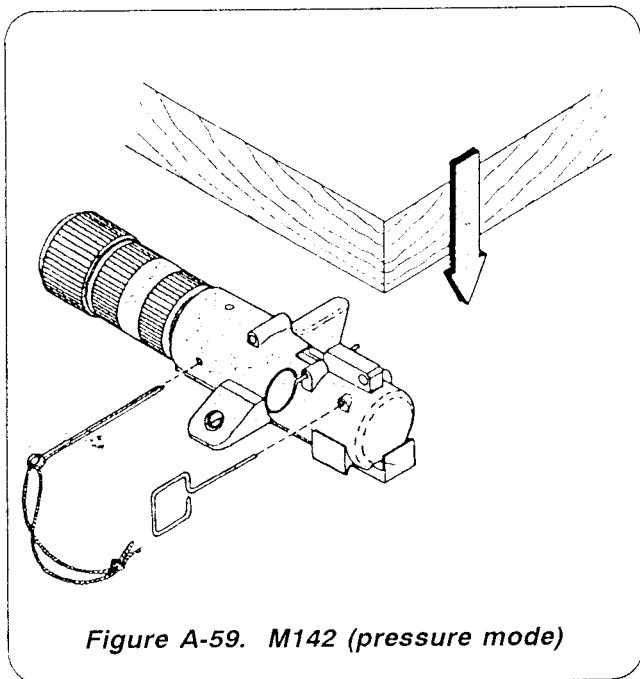

Figure A-59. M142 (pressure mode)
- Pressure (25 pounds or more) (Figure A-59).